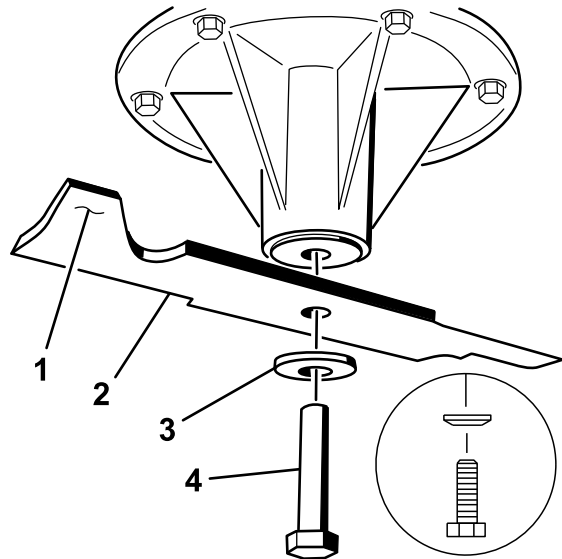

Figure 93
2. Remove the blade bolt, the curved washer, and the blade from the spindle shaft (**Figure 93**).